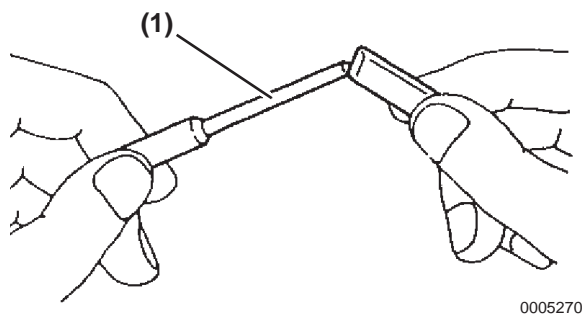

Figure 6-19
2. Remove carbon deposits from the nozzle tip (**Figure 6-19, (1)**) with a wooden stick.